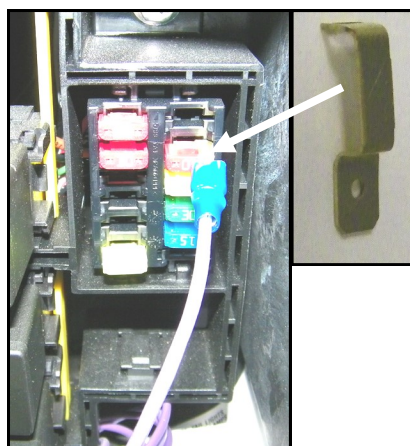

Fig. 2.6 (Wire Harness—Right Side of Vehicle)
2.6 Run the purple wire across the vehicle to the fuse block. Per Fig. 2.6, attach to ignition fuse with fuse tap provided.